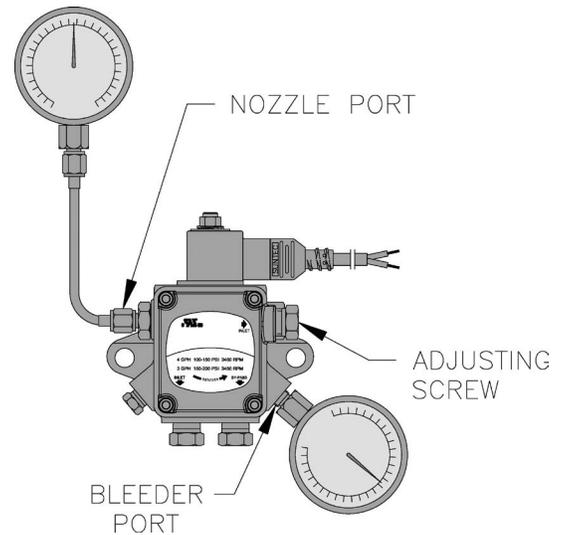

Figure 8-1: Adjusting Fuel Pump Pressure
- a. When checking a fuel unit's operating pressure, a reliable pressure gauge may be installed in either the bleeder port or the nozzle port. Refer to Figure 8-1.